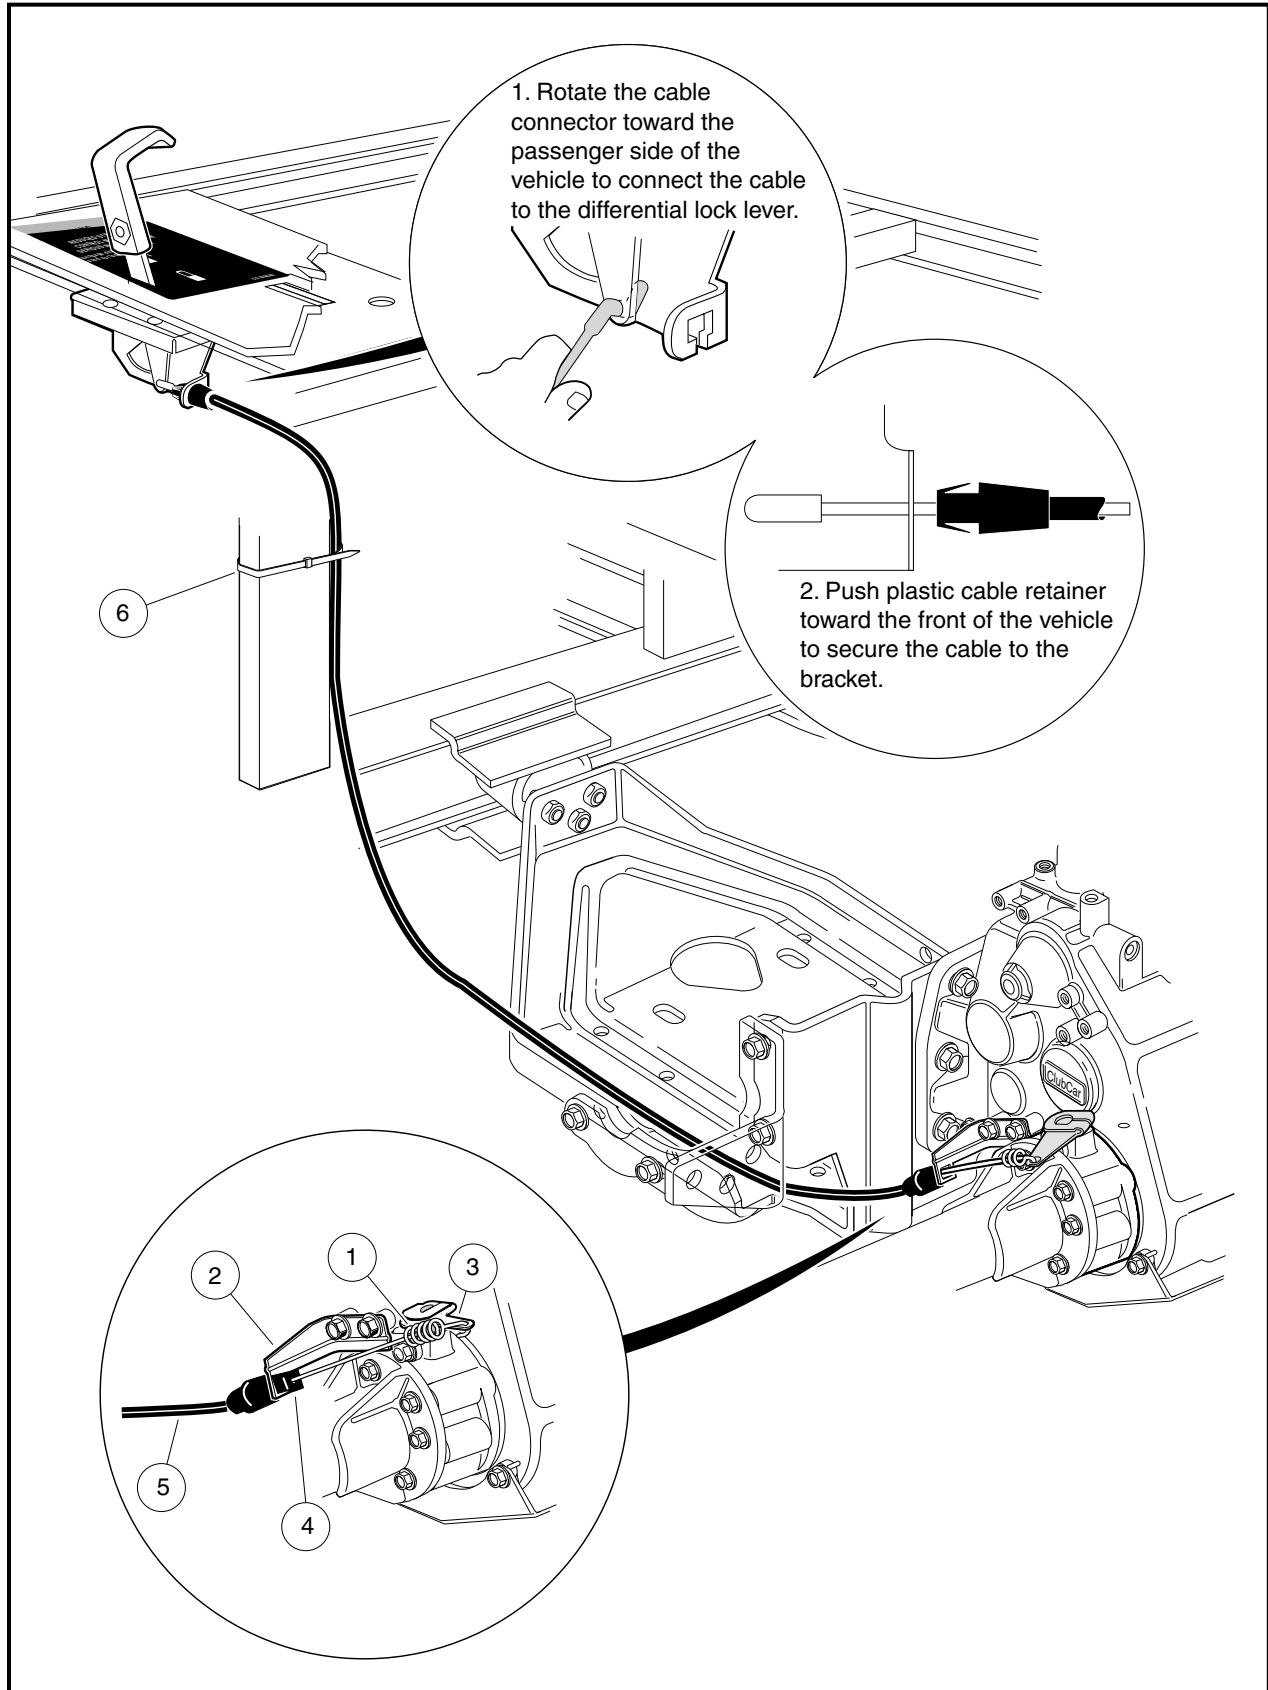

Figure 16b-119 Differential Lock Cable Routing
1. Route the cable through the engine mounting plate as illustrated (**Figure 16b-119, Page 16b-53**).
2. Route the cable spring (1) through the cable bracket (2) as illustrated.
3. Connect the differential lock cable spring end (1) to the differential lock arm (3) on the differential lock housing.
4. Push the cable (5) toward the rear of the vehicle in order to secure the cable to the bracket (2).
- 5.1. Connect the end of the differential lock cable to the differential lock handle (Step 1) (**Figure 16b-115, Page 16b-48**).
- 5.4. Push the cable toward the front of the vehicle to secure the cable to the bracket (**Figure 16b-116, Page 16b-49**).
- 5.5. Secure the cable to the vertical support as shown with a wire tie (6) (**Figure 16b-119, Page 16b-53**).